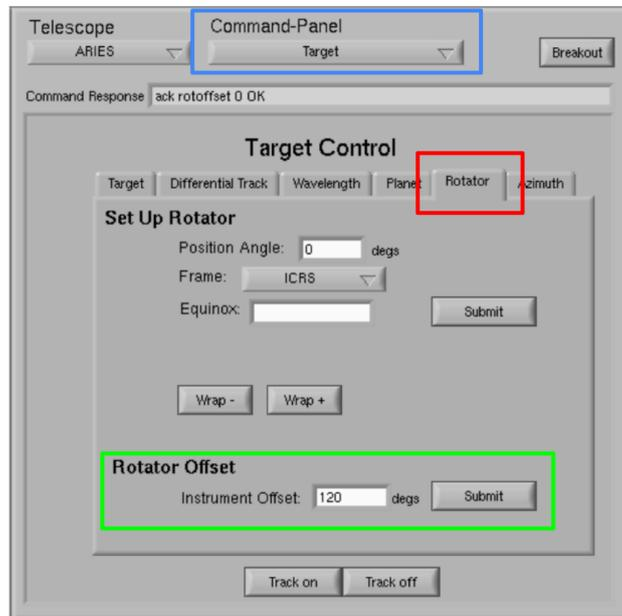

Figure 11: Panel to provide rotator offset for TANSPEC imaging on TCS main window.
1. Select **Target** in the command panel. See the blue box in Figure 11
2. Select **Rotator** shown in red box in Figure 11.
3. Enter **120 degree** in Rotator offset shown in green box in Figure 11.